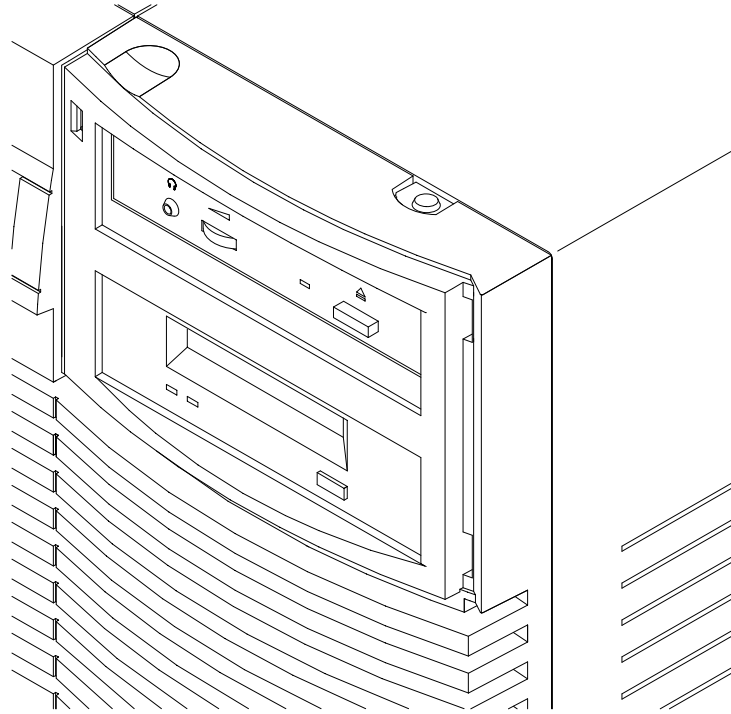

Figure 6-7. Disc Tray Closed
4. Gently push the disc tray in until it is closed, as shown in Figure 6-7.